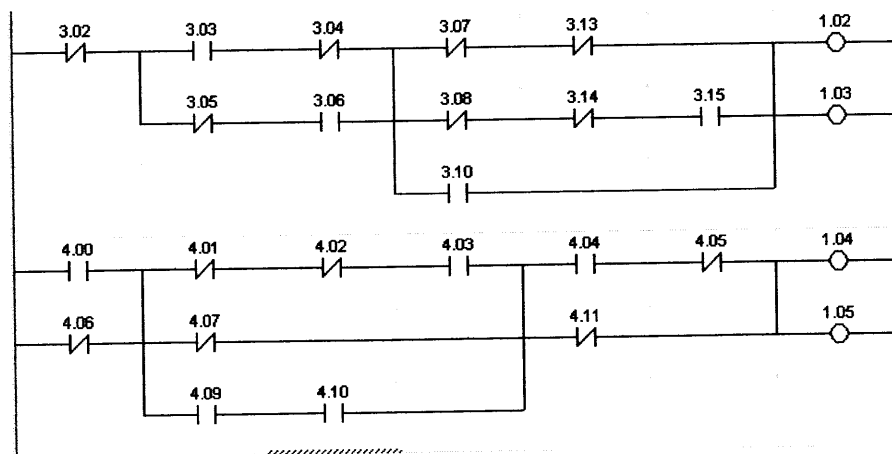

FIGURE Q6(c)
- (c) Write down the mnemonic code for the ladder diagram shown in Figure Q6(c).